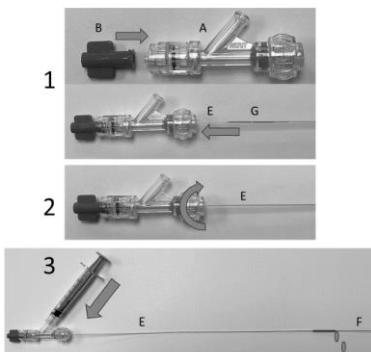

Figure 3: Accessory Assembly and Flushing Loader
- Using the provided accessories, attach the non-vented luer cap (B) to the Tuohy Borst Valve (A). Insert the distal tip of the loader (E) with collapsed Plug (G) into the Tuohy Borst Valve and close. Gently flush the loader with approximately 3 ml of sterile saline just prior to use to hydrate the hydrophilic coating on the delivery wire (F). Saline will exit the loader at the proximal end near the red band during flushing (Figure 3).